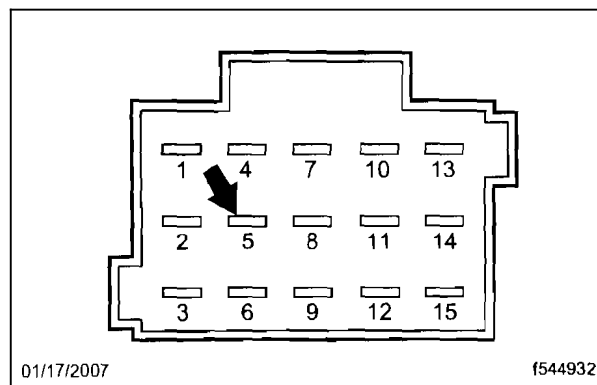

Fig. 14, A16X4 Connector
9. Using a small screwdriver, unlock connector A16X4. Using a dual-lock-terminal removal tool, remove wire RW114B from cavity 5. See Fig. 14. Replace the small terminal with a large terminal, and insert it into cavity 3, terminal 87A, of the relay housing.
10. Cut a piece of 16-gauge white wire, long enough to reach from the GS control unit, to the new relay. Attach a small terminal, then insert it into cavity 5, of connector A16X4. See Fig. 14.